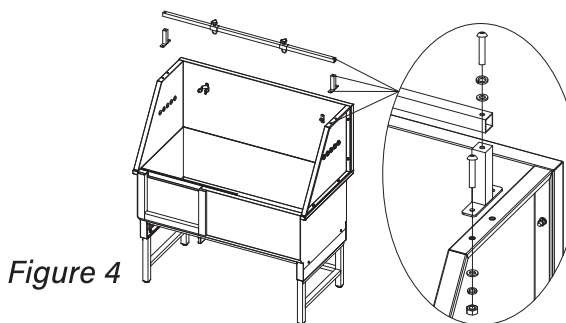

Figure 4
Fix the Overhead Grooming Arm (7) on the Stand of Grooming Arm (9) with M8*35 Hex Bolt x 2 (N), M8 Washer x 2 (J), M8 Spring Washer x 2 (K) by 5mm (M8) Hex Wrench (O). See Figure 4.